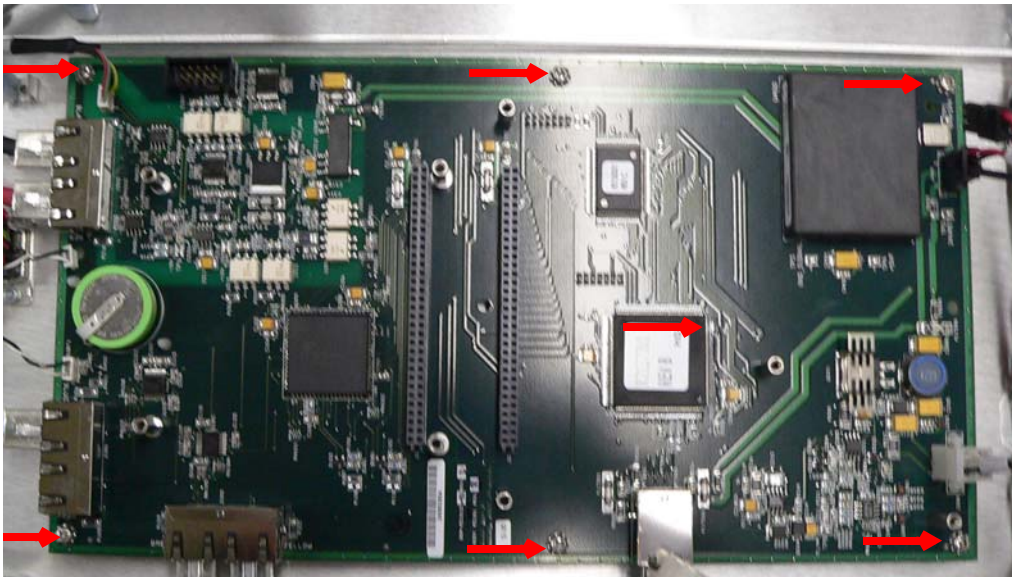

Figure B-37 Mother Board Mounting Screws
8. Remove the six (6) Philipps screws holding the board (Figure B-37).